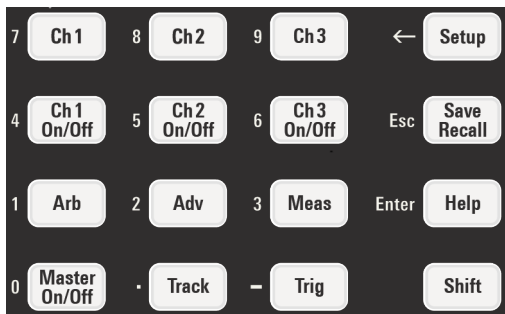

Figure 6-1: Numeric keypad
- c) Enter the desired value using the numeric keypad on the front panel. See Figure 6-1.